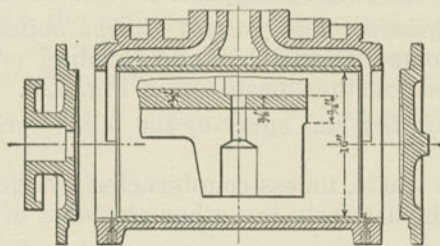

Fig. 130. Cylinder Bushing.
A. Fig. 130 shows a bushing extending from the front head to the back; Fig. 131, one ending at the inside of the back port; Fig. 132, a proposed construction in which